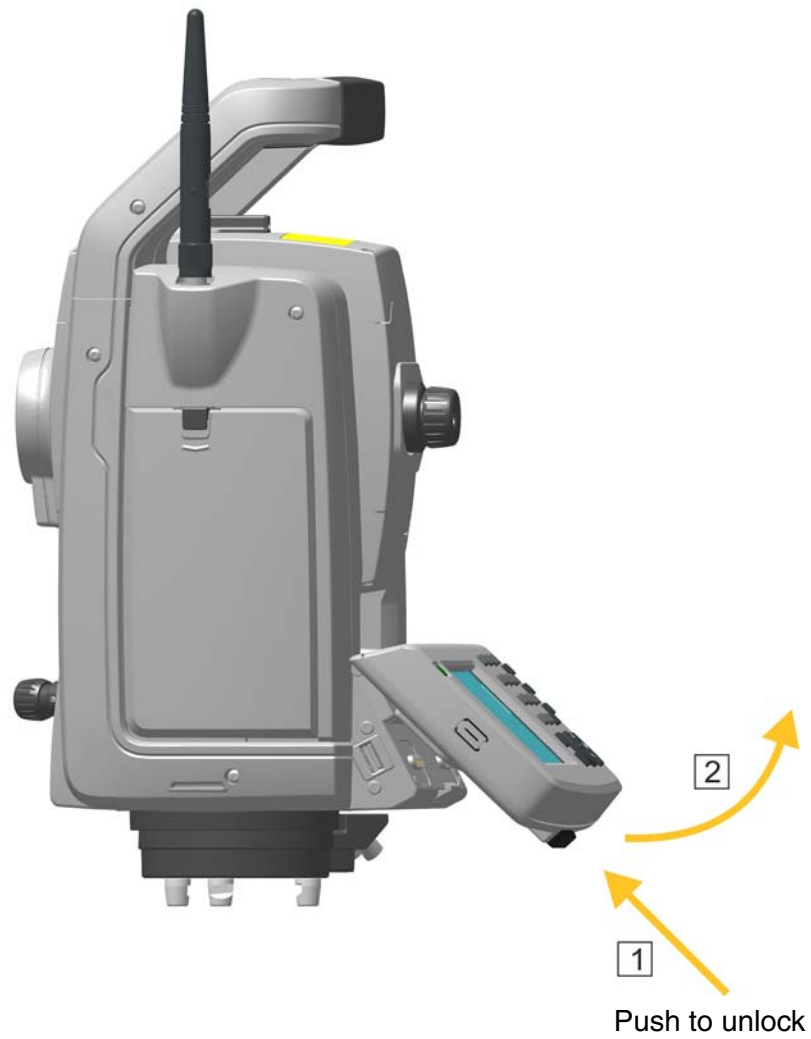

Figure 4.14 Detaching the TCU
1. Push the lock release button on the bottom of the TCU, Figure 4.14 (1)
2. Lift the bottom of the TCU away from the instrument, Figure 4.14 (2)